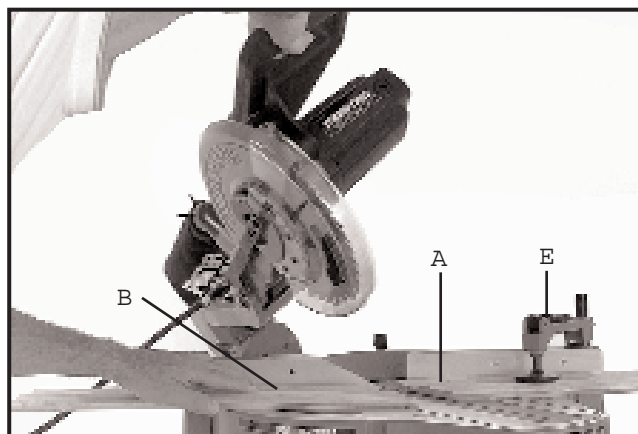
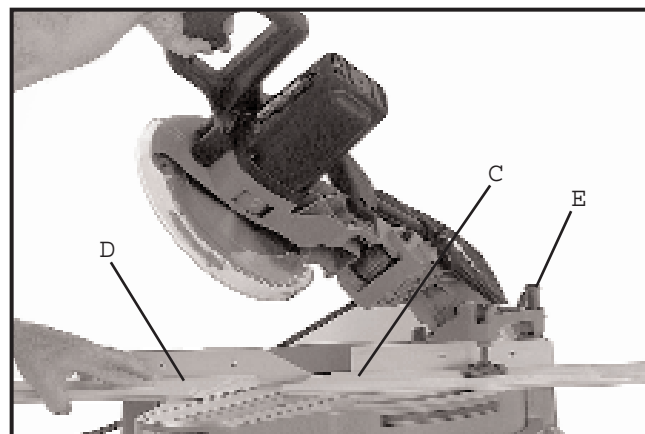
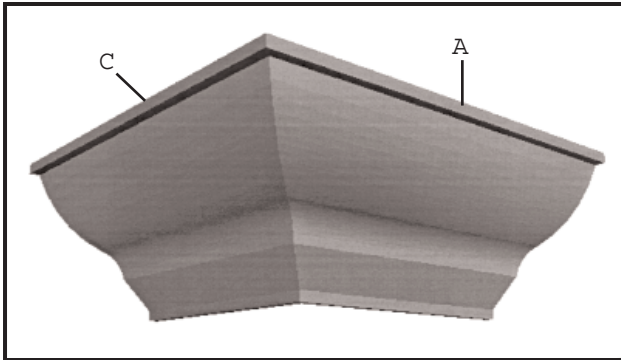
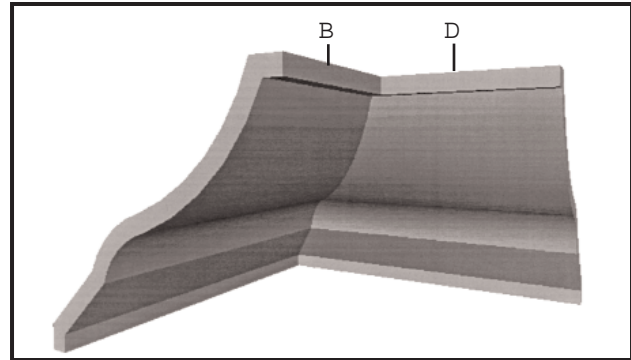

Fig. 47
Fig. 48
Fig. 49
Fig. 50
3. Place the crown moulding on the table with the CEILING EDGE of the moulding against the fence, and make the cut, as shown in Fig. 47.
NOTE: The piece of crown moulding used for the outside corner will always be on the right hand side of the blade, as shown at (A) Fig. 47. The piece of crown moulding used for the inside corner will always be on the left hand side of the blade, as shown at (B) Fig. 47. Note that the standard equipment work clamp (E) is being used to hold the workpiece in position.
- Place the crown moulding on the table with the WALL EDGE of the crown moulding against the fence and make the cut. Again, the piece of crown moulding used for the outside corner will always be on the right side of the blade, as shown at (C) Fig. 48. The piece of crown moulding used for the inside corner will always be on the left side of the blade, as shown at (D) Fig. 48. Again, the standard equipment work clamp (E) is being used to hold the workpiece in position.
- Fig. 49 illustrates the two outside corner pieces; (A) being the piece cut at (A) Fig. 47, and (C) being the piece cut at (C) Fig. 48.
- Fig. 50 illustrates the two inside corner pieces; (B) being the piece cut at (B) Fig. 47, and (D) being the piece cut at (D) Fig. 48.